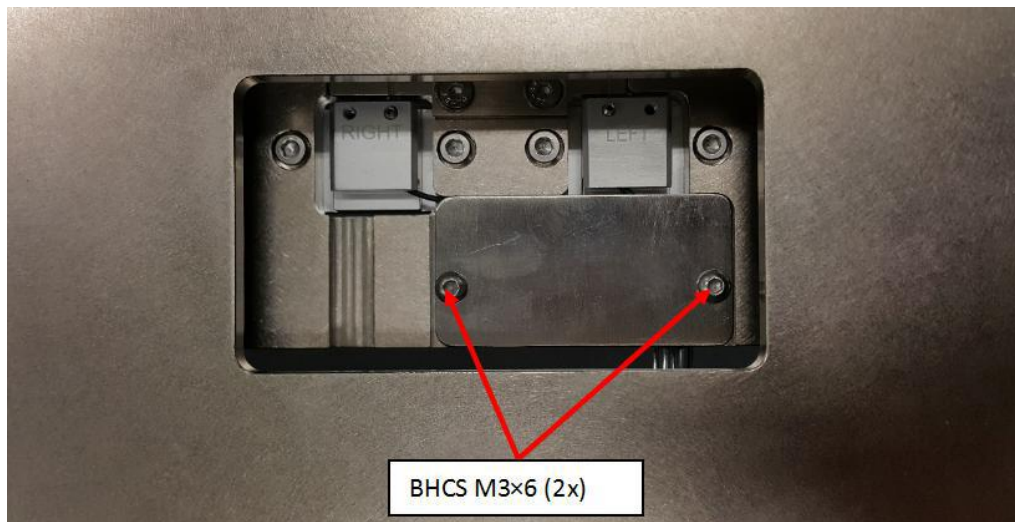

Figure 4 Sensor 2 Emitter
2. Open BHCS M3x6 (2x) as shown in Figure 4 at adjustable rail (Near to Left Outer Barrier)